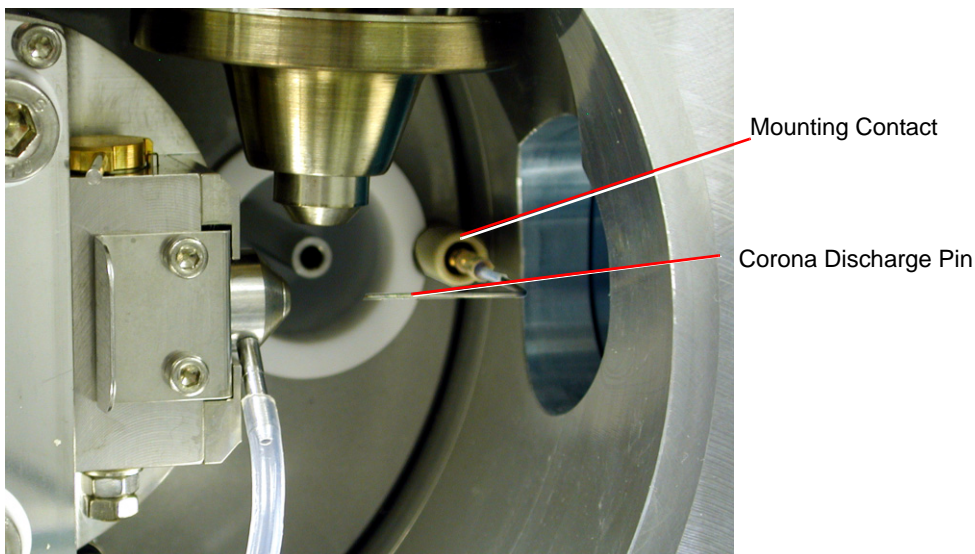

Figure 5-1 Corona Discharge Pin
15. Fit the corona discharge pin to the mounting contact. Ensure that the corona discharge pin tip aligns with the sample cone tip (see Figure 5-1).
The APCI probe used in the Combined APPI/APCI Source is the standard probe used in the LCT Premier for APCI operation (see Figure 5.1).